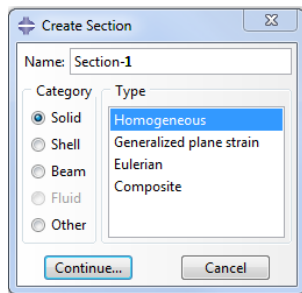
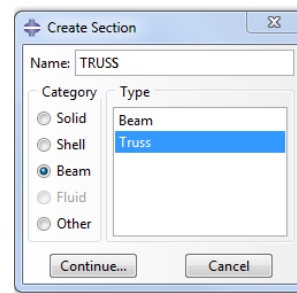

Figure 7a. Create Section Dialog Box
Figure 7b. Create Section Dialog Box Truss
- To create a truss section in Abaqus, double click **Sections** in the model tree and the **Create Section** dialog box will appear (Figure 7a). Enter a **Name** for the section (TRUSS), and choose **Beam** under the Category Tab, and **Truss** under the Type tab. Your Create Section dialog box should look identical to that in Figure 7b.